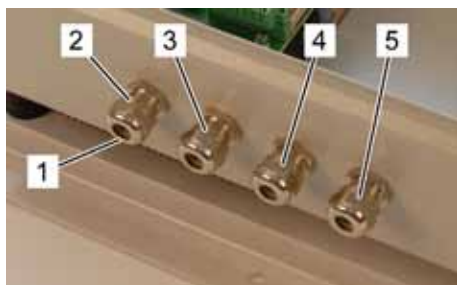

Fig. 70: Types of cable glands
4. Loosen the pressure screw of the cable glands (Fig. 70/1).
5. Guide the bus cables from the Terminal boxes through both the cable glands in the middle (Fig. 70/3+4) into the Line Converter box.
6. Guide the bus cable to the Indication unit (LT2004D0) through the cable gland on the left (Fig. 70/2) and the power supply through the cable gland on the right (Fig. 70/5) into the Line Converter box.
8. Tighten the pressure screw (Fig. 70/1) of each cable gland so that the cable is fixed.